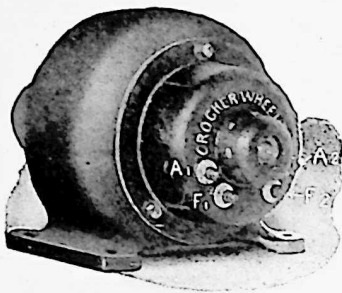

FIG. 121. Simple shunt generator.
**61. Connections of a Shunt Generator.** In connecting up a shunt generator, first trace back the leads from the terminals as shown in Fig. 121. Two of the leads will be